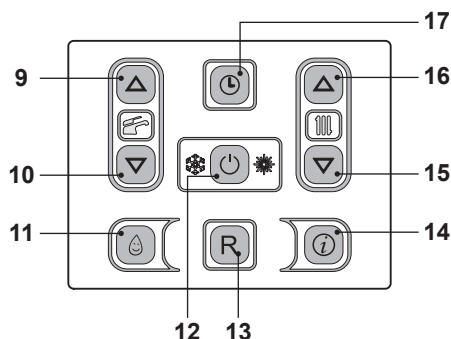
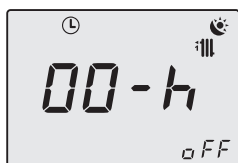
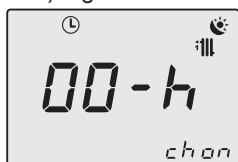

Fig. 2.16
Fig. 2.17
Fig. 2.18
Press keys 15 and 16 (Fig. 2.16) at the same time for 2 seconds to enter programme menu (Fig. 2.17).
Press key 12 (Fig. 2.16) to modify the function status: (12 scrolls through Menu **oFF**, **ch on**, **ch oFF**) Fig. 2.18.
Press keys 9 or 10 (Fig. 2.16) to programme the forced heating function Minimum 1 hour to Maximum 30 days (The above example has been set for **ch on** for 1 day) (Fig. 2.19).
To exit programming without making any changes press keys 15 and 16 (Fig. 2.16) at same time for 2 seconds.
Hold down keys 15 and 16 (Fig. 2.16) at the same time for 2 seconds until the remaining time and status of the programme appears on the LCD display.
Press key 12 (Fig. 2.16) to modify the status to **oFF**.
To exit programming without making any changes press key 15 and 16 (Fig. 2.16) at the same time for 2 seconds or wait 60 seconds.